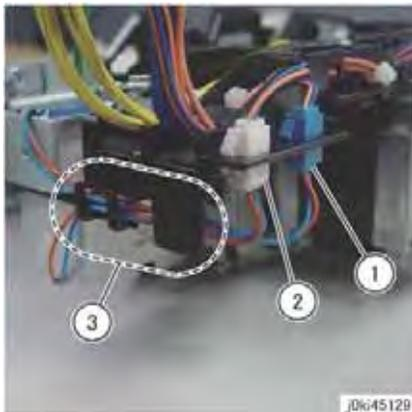

Figure 3 Solenoid Harness Removal
11. Remove the wire harness of the solenoid from the Harness Guide. (Figure 3)